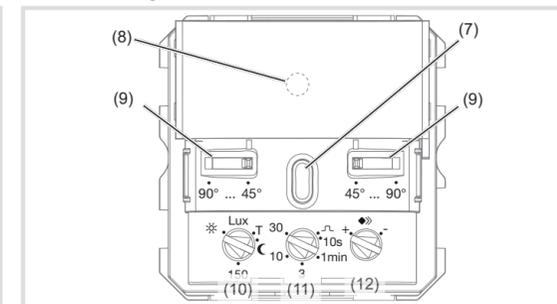
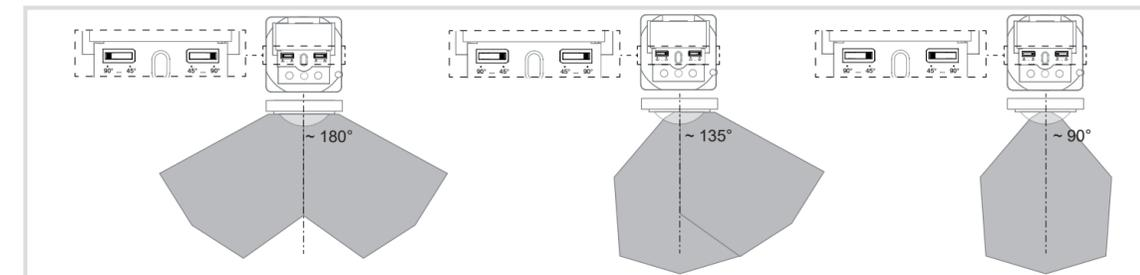

Figure 8: Operation and adjustment elements
Figure 9: Setting the detection angle
Overview of operation and adjustment elements (Figure 8)
The detection angle can be restricted for the right side and for the left side via each adjuster (Figure 8, 9) between 45° ... 90° for each adjuster. This can be carried out on the device. Thus the detection angle can be between 90° and 180° (Figure 9).
- Set the response brightness potentiometer (Figure 8, 10) to Test (T).
- Turn the response brightness potentiometer (Figure 8, 10) to the desired position.
- Turn the delay time potentiometer (Figure 8, 11) to the desired position.
- Turn the sensitivity potentiometer (Figure 8, 12) to the desired position.
- Turn the response brightness potentiometer (Figure 8, 10) to Test (T).